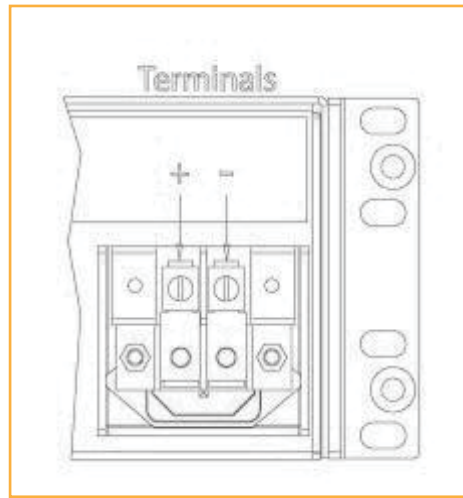
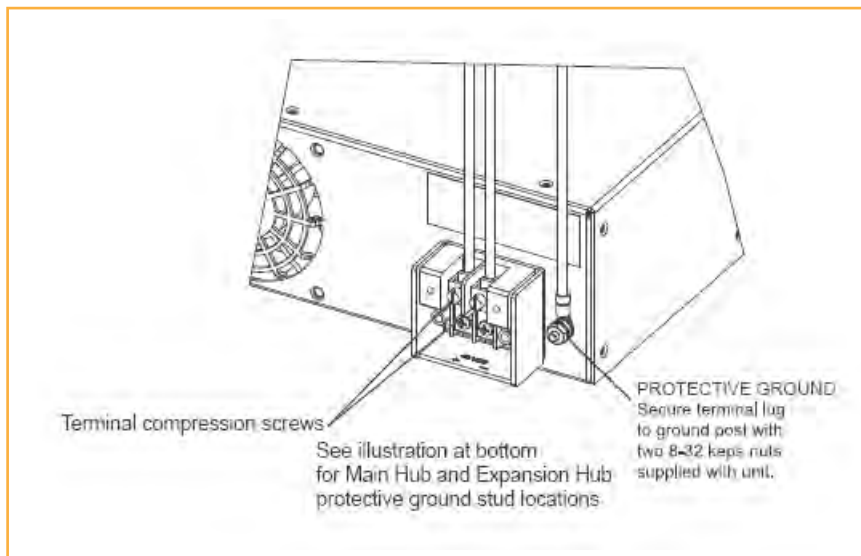

Figure 26. DC Terminals
Figure 27. Locations of the Power Screws
- 7 Use the illustrations in Figure 26 and Figure 27 on page 122 to connect the power.